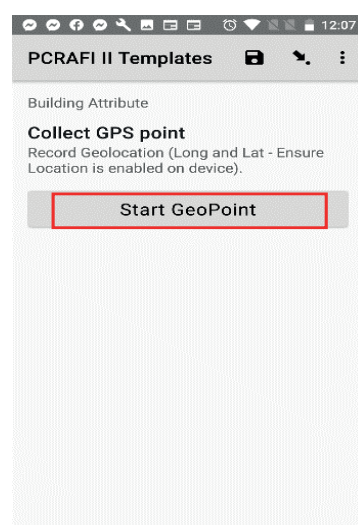

Figure 58: KoBoCollect - Collecting GPS points
1. The following interface will appear when collecting GPS coordinates (Figure 58). Click on "Start GeoPoint" in order to begin collection of GPS points.